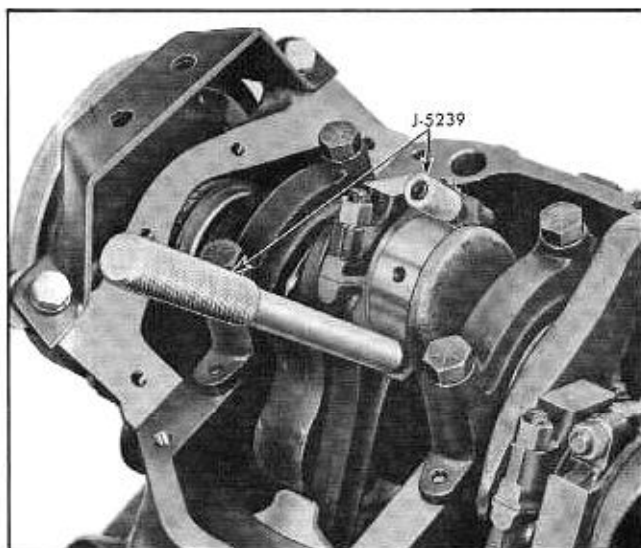

Fig. 6-38 Removing Connecting Rod and Piston Assembly
5. Remove bearing cap and install Connecting Rod Bolt Guide Set J-5239 (Fig. 6-38).
c. Install Connecting Rod Bolt Guide Set J-5239 on connecting rod bolts (Fig. 6-38).